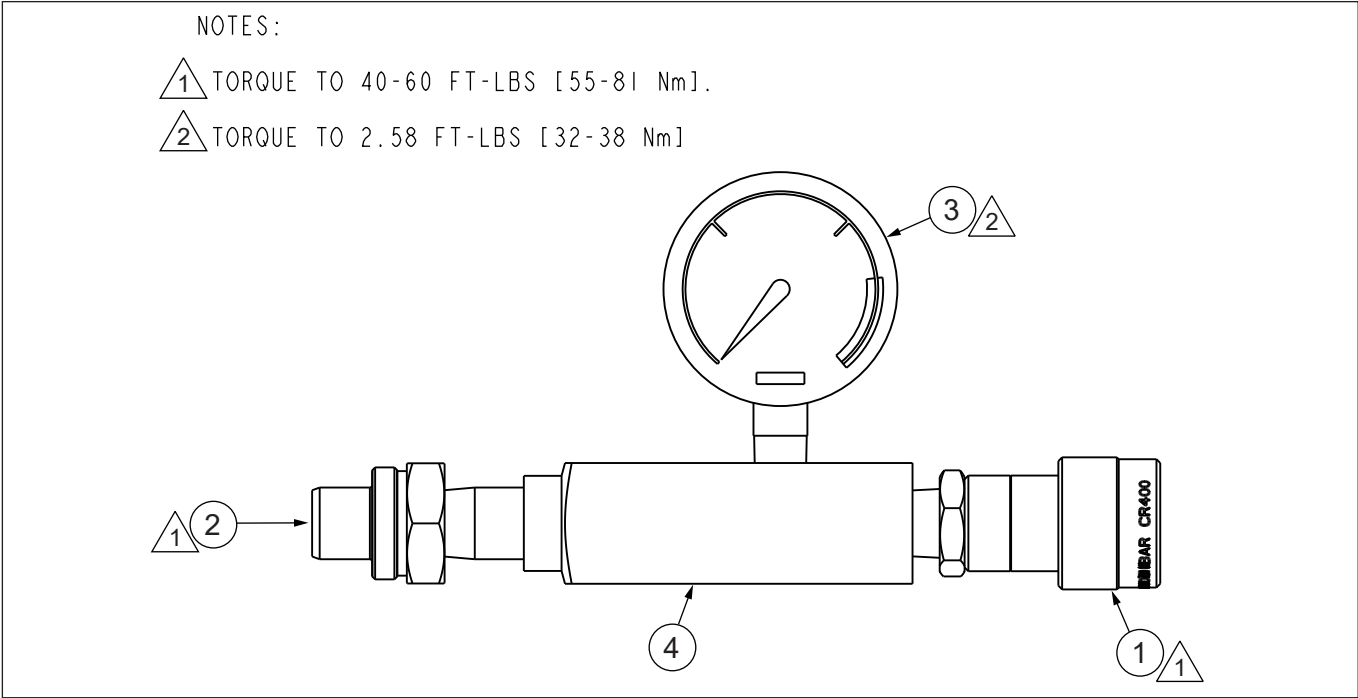

Figure 22: Exploded View - Pressure Measurement Assembly
9.4.1 Pressure Measurement Assembly LGH100900-5 Table of Parts (Figure 22)